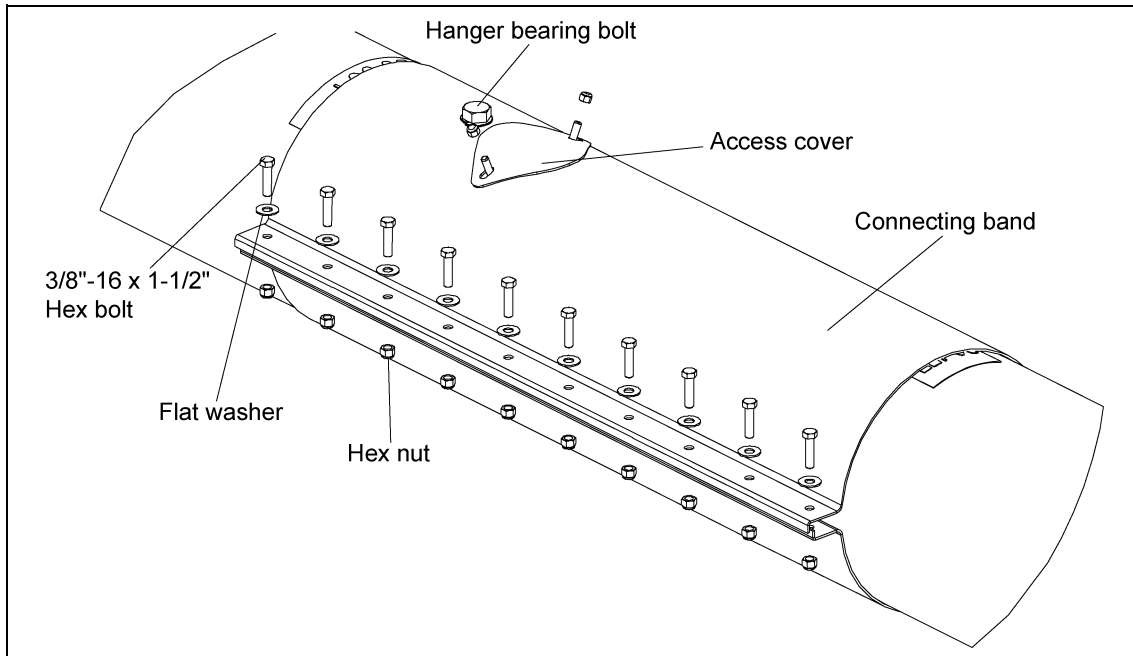

Figure 4U
5. With hanger bearing secured bolt connecting band to tubes using the 3/8"-16 x 1-1/2" hex bolts and attach access cover using included nylock nuts. (See Figure 4U.)